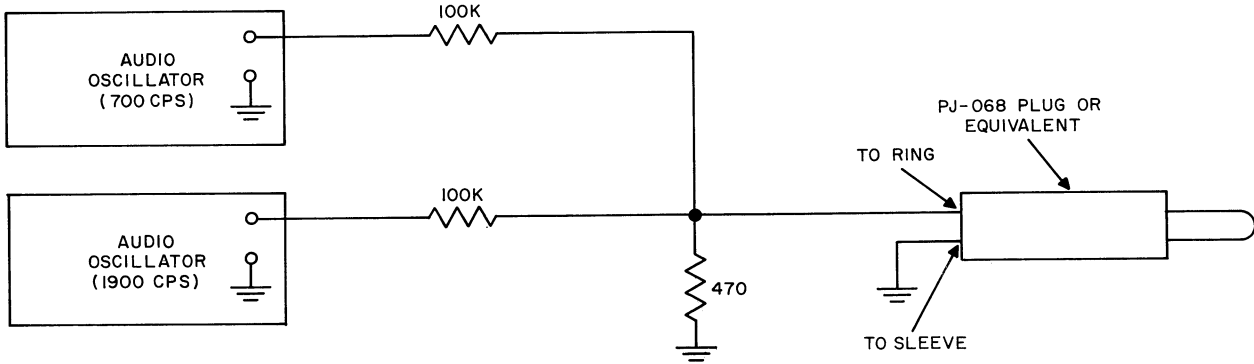

Figure 10. Two Tone Test Setup
- Introduce a two-tone input signal (1200 and 1900 cps) to the exciter input. When using the KWM-2/2A or S-Line equipment this can be done as shown in figure 10, where one audio oscillator is generating a 1200-cps 1-volt rms signal and the other is generating a 1900-cps 1-volt rms signal.